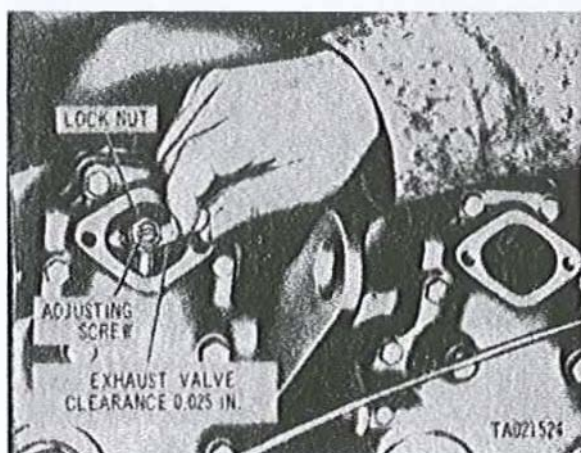

Figure 2-153. Setting exhaust valve clearance.
(4) Loosen exhaust valve adjusting screw lock nut (fig. 2-153). Turn valve adjusting screw until clearance between screw pad and valve stem is 0.025 inch, using thickness gage blade Part Number 10882616. Torque tighten lock nut to 175 pound-inches after correct adjustment is made. Make certain setting has not changed after tightening lock nut.